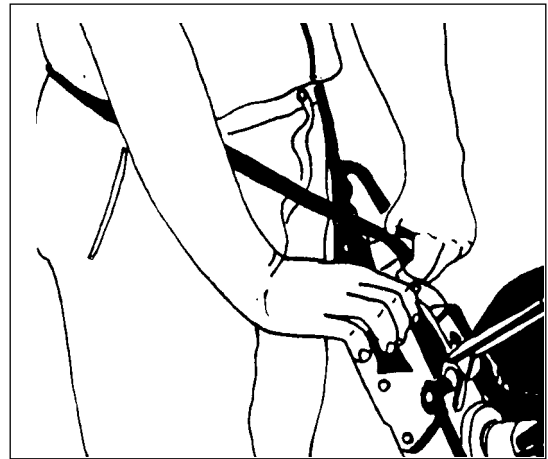

Figure 5
- b. Cross the straps at the waist. See figure 5.